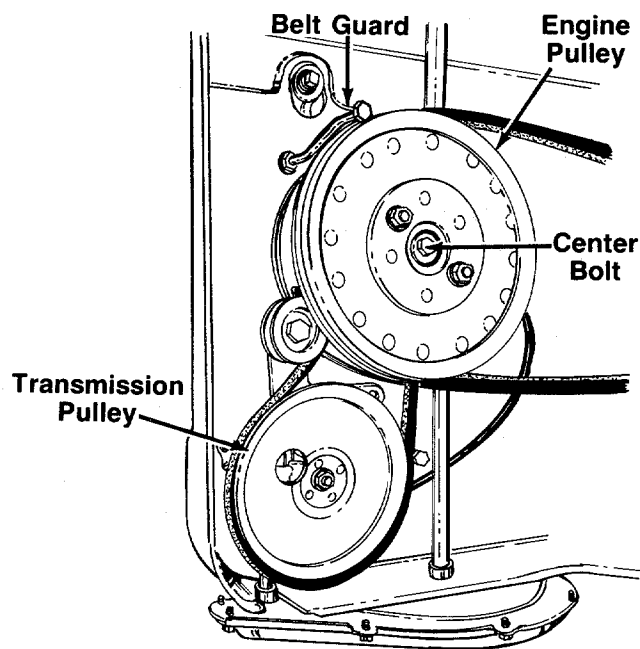

FIGURE 19.
1. Loosen the belt guard shown in figure 19 and move away from the engine pulley.
Upon reassembly, belt guard must be 1/8" away from engine pulley, and positioned as shown in figure 19.
2. Remove the engine pulley as follows. See figures 19 and 20.